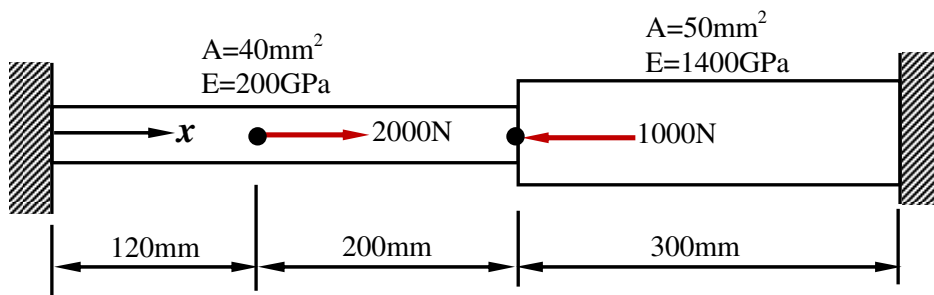

Fig. 1.
3. a) Calculate nodal displacements, strain and stress at each element, and reaction forces of the following bar shown in Fig. 1. 8M